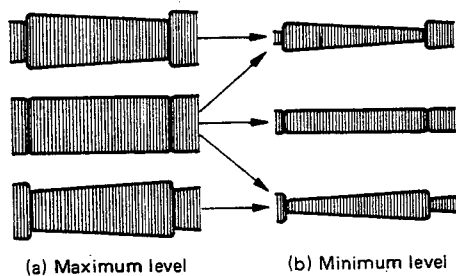

Fig. 2-45 Normal waveform examples
6. Turn the Tracking control from end to end. The waveform variation should be nearly parallel as shown in Figs. 2-45 and 2-46.